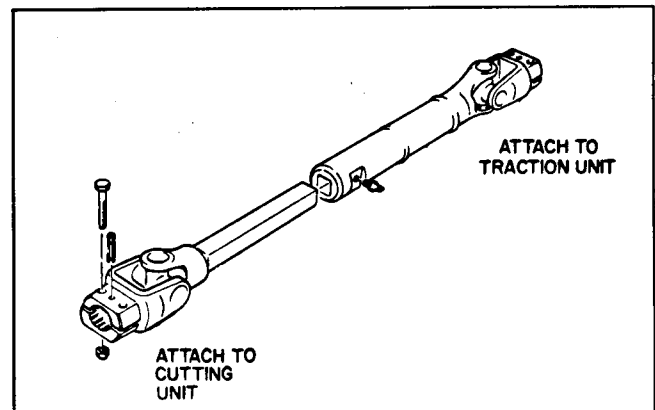

Figure 21
4. When installing the PTO universal drive shaft, the tube part attaches to the PTO shaft on the traction unit and the square shaft part attaches to the implement input shaft (Fig. 21). Align the roll pin hole in the yoke with the hole on the PTO shaft and/or implement input shaft. Drive a new roll pin through the hole(s). Tighten the clamping bolts and lock nuts.